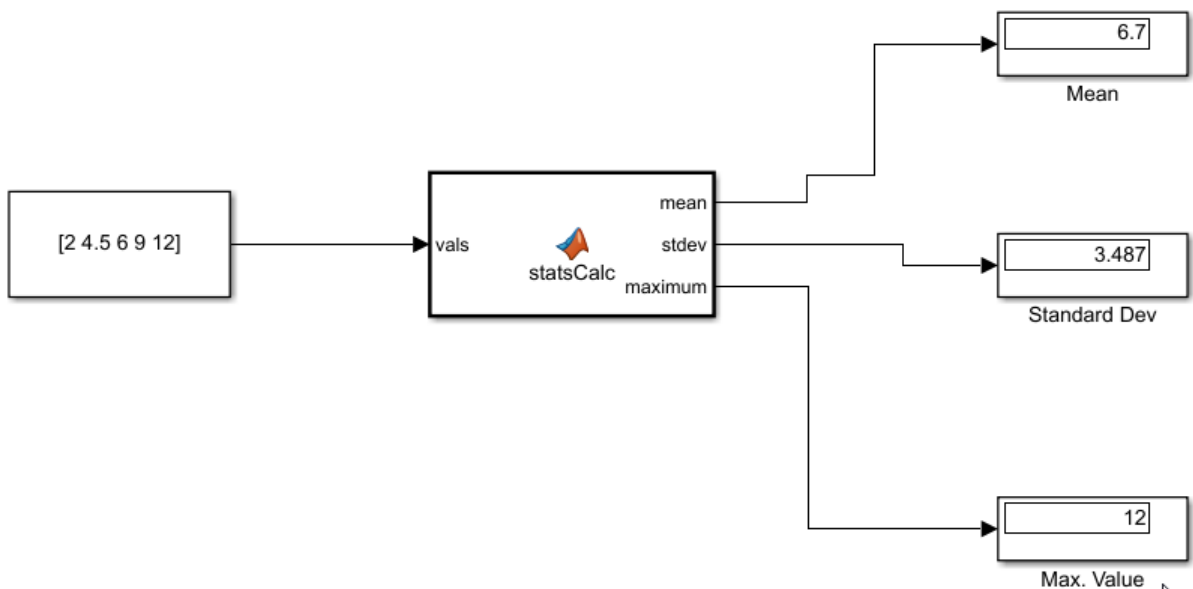

Figure 2: Results of statsCalc function in the Display blocks.
11. Run the model from Simulation window. You should see the output as shown in Fig 2.